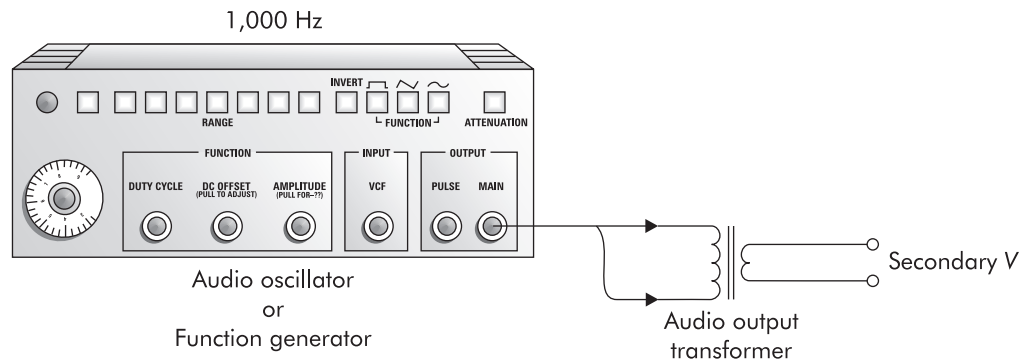

FIGURE 46-1
1. Obtain an audio output transformer and connect a circuit similar to that shown in Figure 46-1.